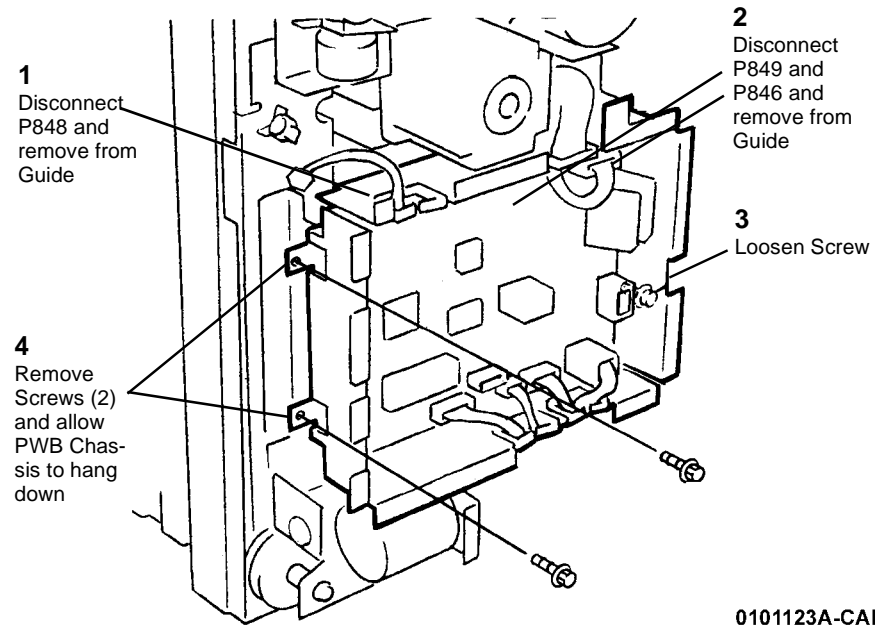

Figure 4 Moving PWB Chassis Down
5. Move the PWB Chassis down (Figure 4).